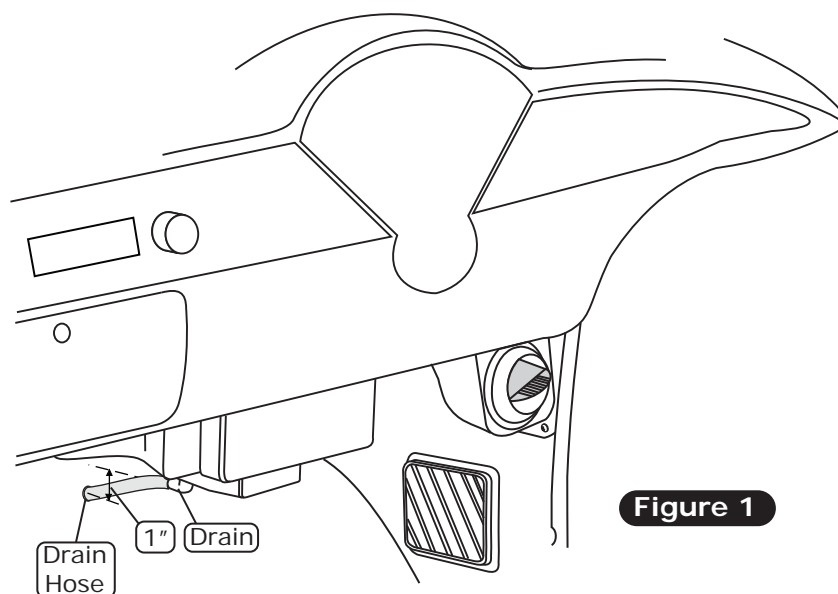

Figure 1
2. Inline with the drain, lightly scribe a mark on the firewall. Measure down 1" and drill a 5/8" hole through the firewall (See Figure 1, below).